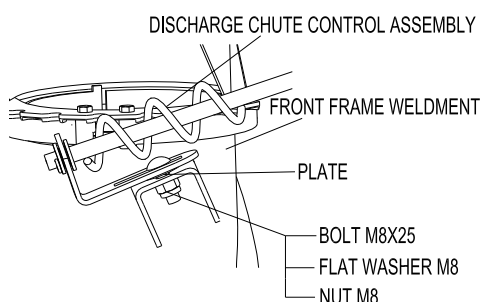
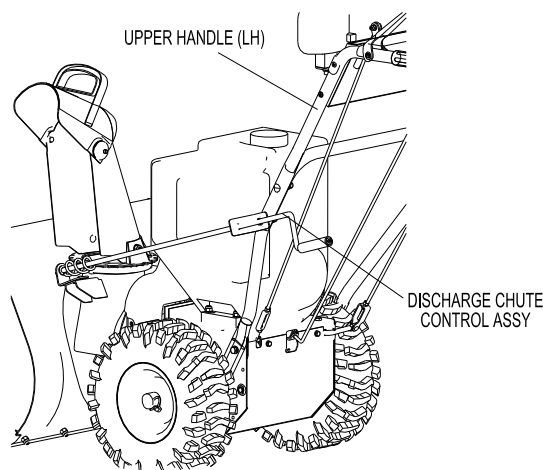

FIG 11
FIG 12
Attach the discharge chute control assembly (bracket) to the upper handle (LH) with the existing bolt, washer, and nut. Attach other end of assembly through worm bracket slot, plate, and front frame weldment holes with hex head bolt, washer, and nut. Operate the chute control rod to check if the discharge chute moves freely. (FIG 11, FIG 12)